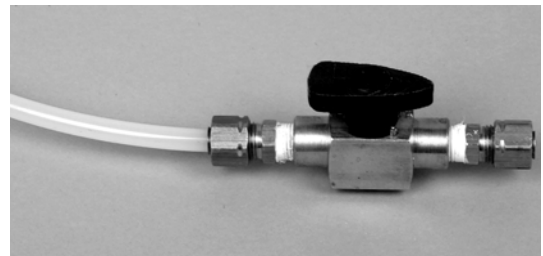

Figure 6 – Bleed Valve
18. At the end of the tubing line, past the spray nozzles, attach a bleed valve to shut off the line and hold pressure (figure 6). It is preferable to end at the drum for convenience in bleeding insecticide and air from the line into the drum. Close valve after air is removed.